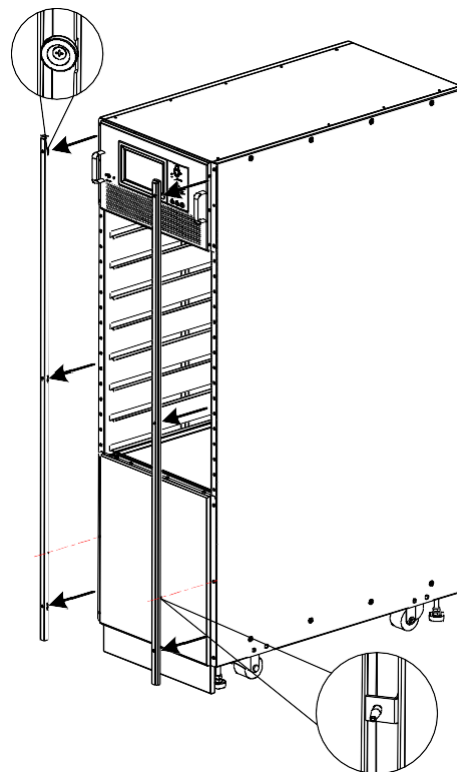

Figure 3-6 Remove cabinet trim strip
1. Remove cabinet trim strip, as Figure 3-6 shows;